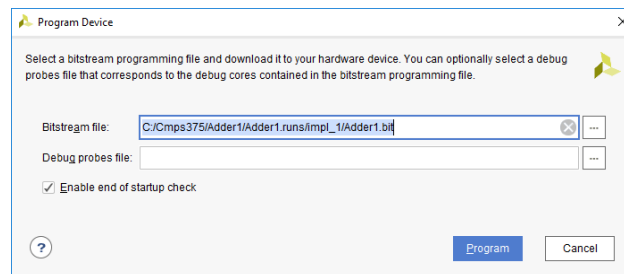

Figure 18. Bitstream for Nexys4 DDR: Adder1.bit
- d. Make sure the *Bitstream file* of *Program Device* form is **Adder1.bit** as shown in Figure 18. Then, click the **Program** to program the FPGA. Note that: the *DONE* light on the board will light when the device is programmed.